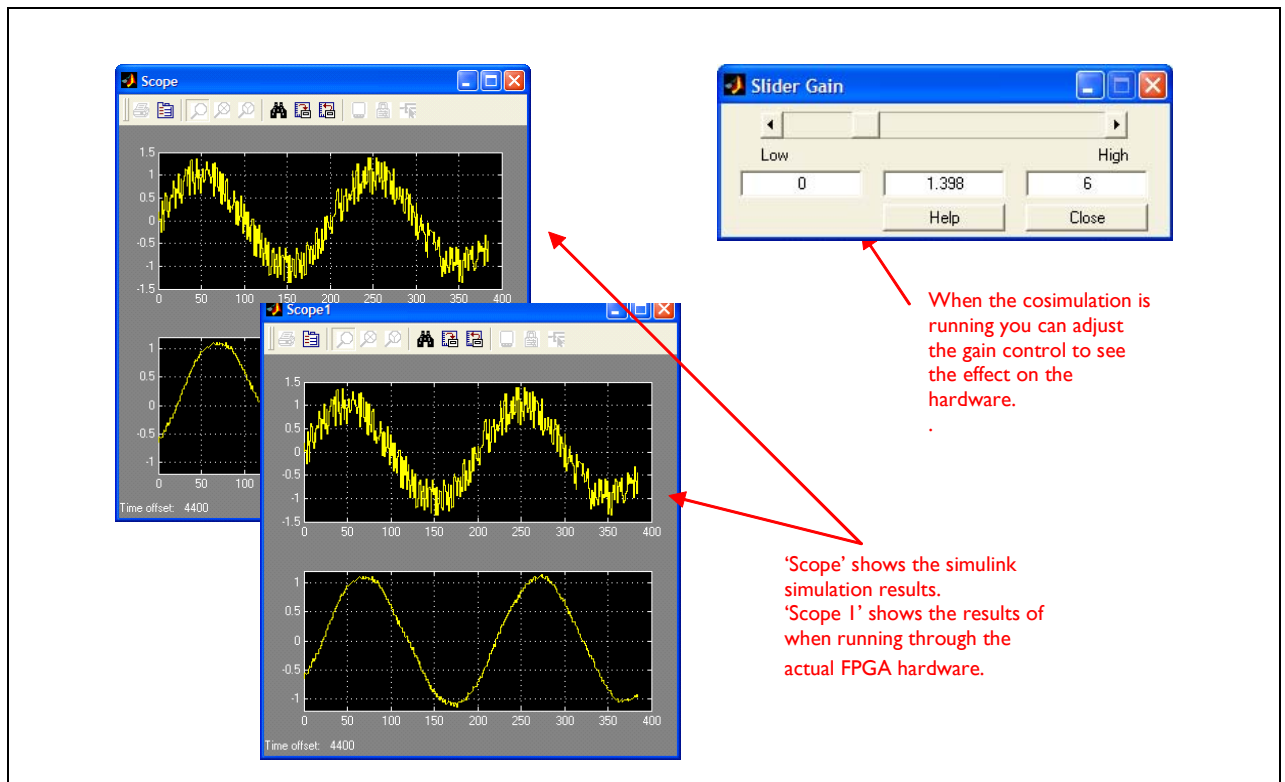

Figure 134: Cosimulation Results
6. Simulate the model by clicking on the 'Start simulation' icon shown right. Open both scopes and also the gain slider control as shown in Figure 134 on page 208. After a few seconds, during which the FPGA is configured, the simulation begins and waveforms appear in the scopes.